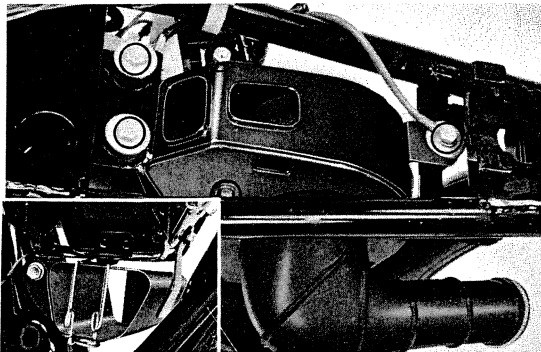

Fig. 144 Air cleaner and tool box removal
- 5) Disassemble the air cleaner and tool box. (Fig. 144)